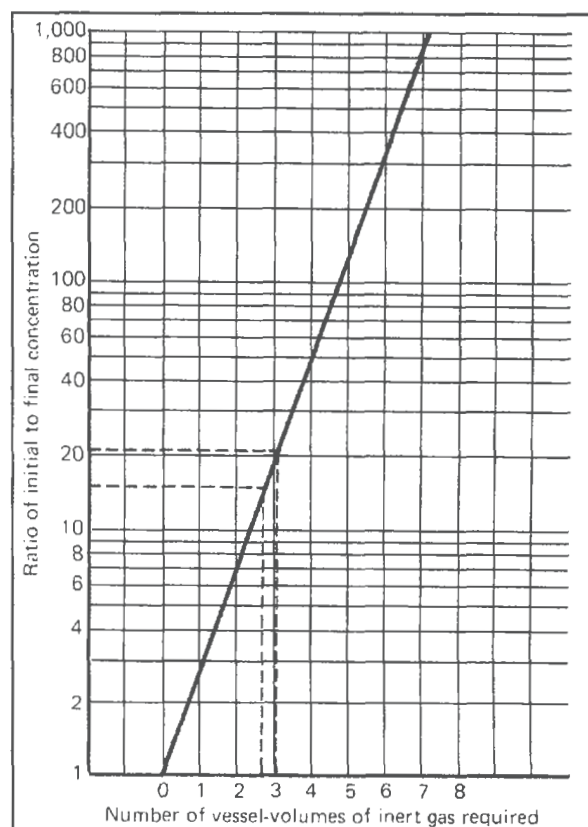

Figure 1. Vessel-volume of inert gas is determined by ratio of final to initial gas.
- Use Figure 1 to determine the quantity of inert purge gas required.
Example: A tank full of air (21% O₂) needs to be purged to 1% O₂. From Figure 1, 3.1 vessel volumes of inert gas are required.